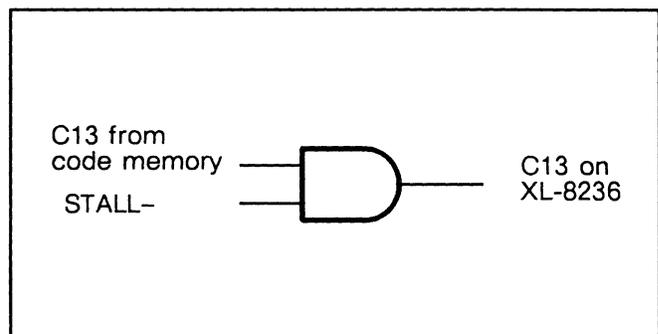

Figure 9. Hardware portion of the special handling for rfi0/rfi1
4. Condition C13 by ANDing it with STALL-, as shown in figure 9. This will prevent the RCS from ever seeing an rfi0 instruction during STALL- cycles, and eliminates the problem (that it alters the code word is unimportant, since the STALL- signal will cause it to not be executed). If your design does not use STALL-, you do not need to implement this.